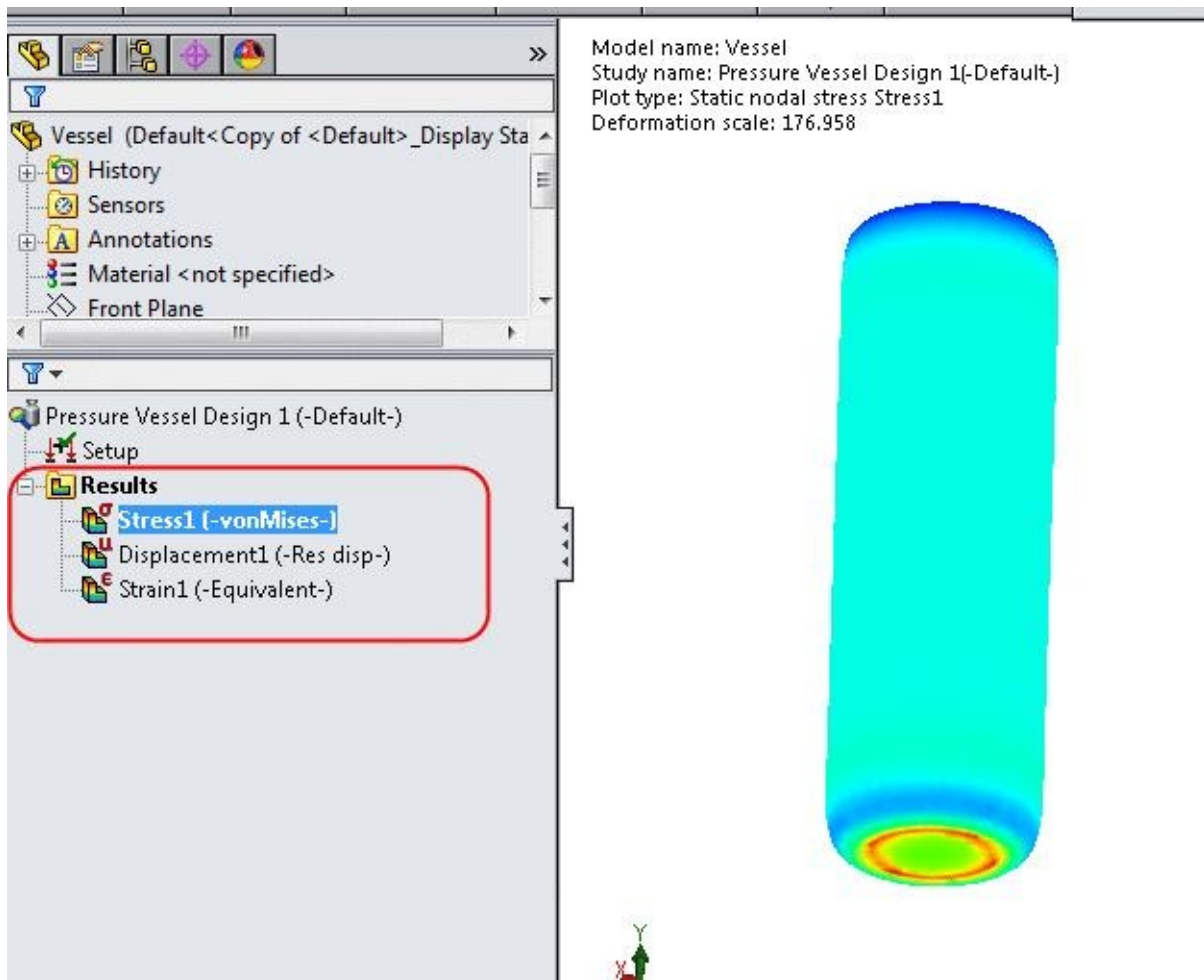

Figure-8. Results after combination
- After the study is complete, the results will be displayed in the **Result** node of the **Analysis Manager**; refer to Figure-8.